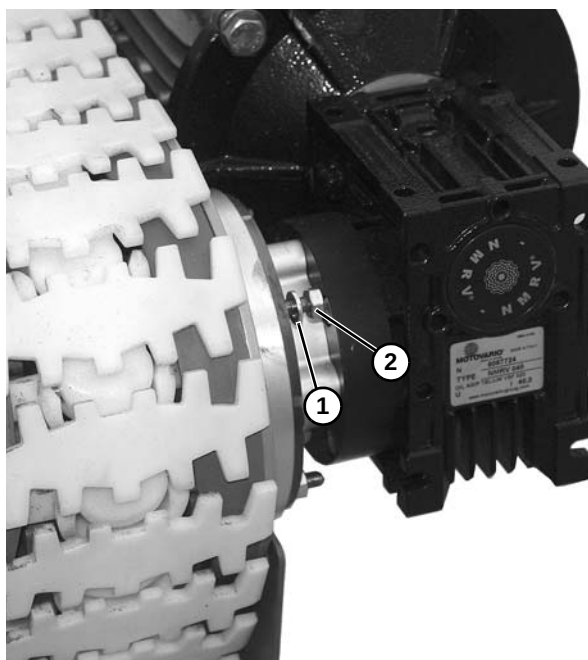

Figure 49
3. Install four washers (**Figure 49, item 1**) and nuts (**Figure 49, item 2**) to secure motor to conveyor.